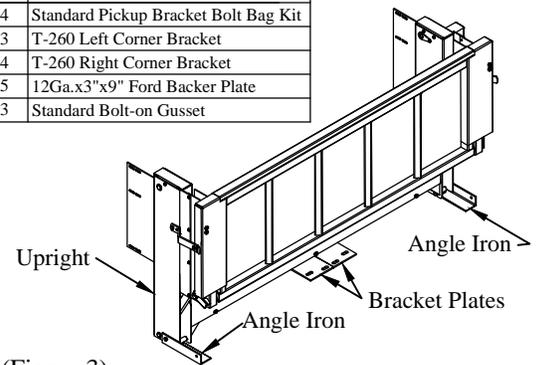

Figure 3: Complete liftgate (G² shown).
4. Unbolt and Save the two (2) angle irons attached to the liftgate uprights- **G² only** (Figure 3).
5. Remove and Save the two (2) bracket plates attached to the liftgate- **G² only** (Figure 3).